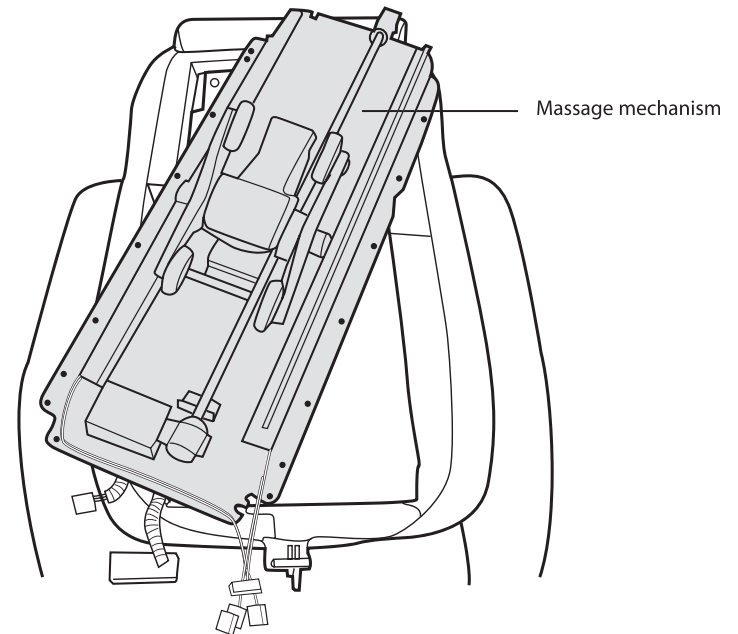

Fig.6
9. Pull the massage mechanism up and out of the backrest, turn it over, then rest it on the backrest facing upward (Fig.6).